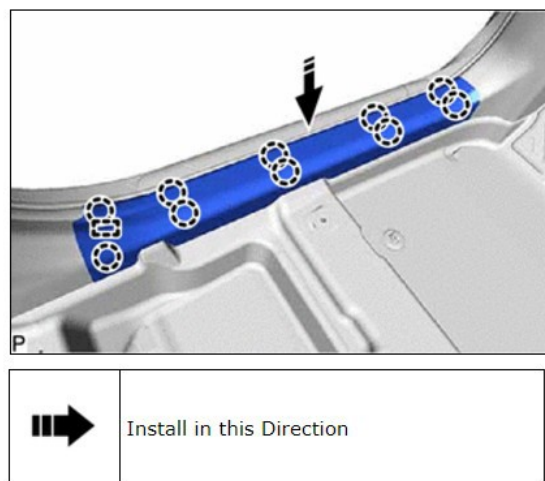

Figure 51
- (a) Engage the guide and 10 claws to install the front door scuff plate LH as shown in Figure 51.